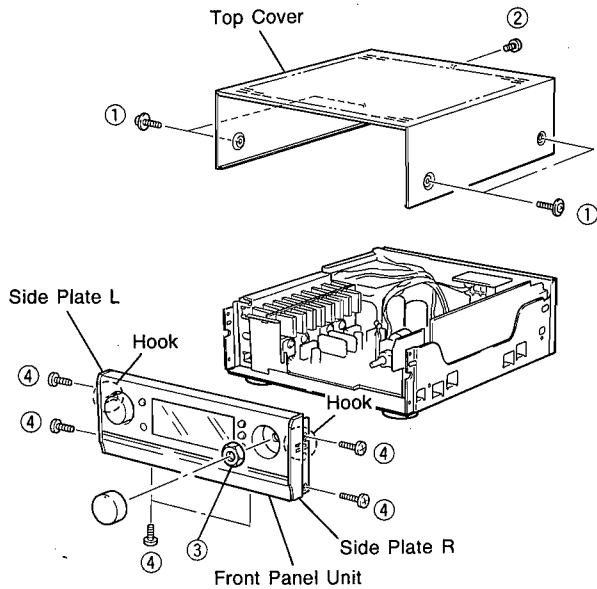

Fig. 1
- b. Remove 1 nut (3) in Fig. 1.
- c. Remove 6 screws (4) in Fig. 1.
- d. Remove 2 hooks and pull the Front Panel Unit in Fig. 1.